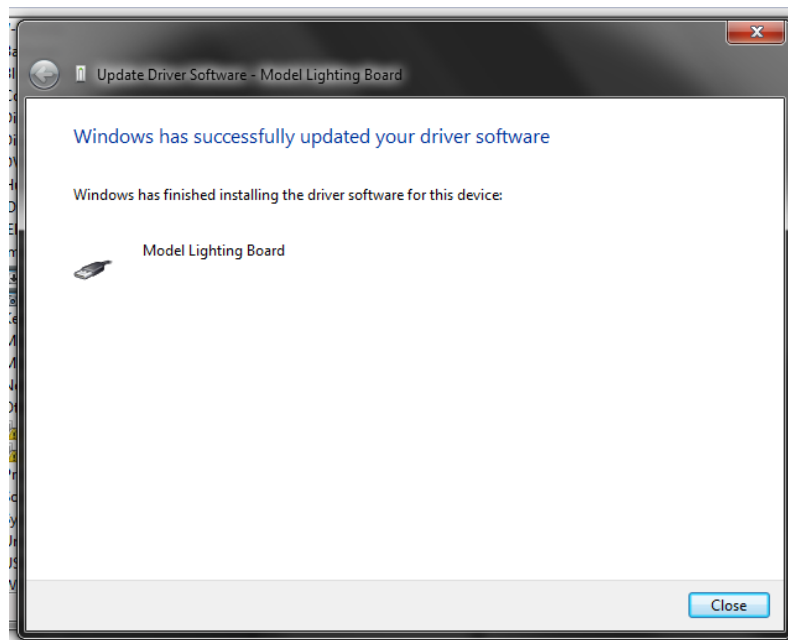

Figure 6: "Windows has successfully updated your driver software"
9. The next window shown in Figure 6 will show a successful install of the driver software.